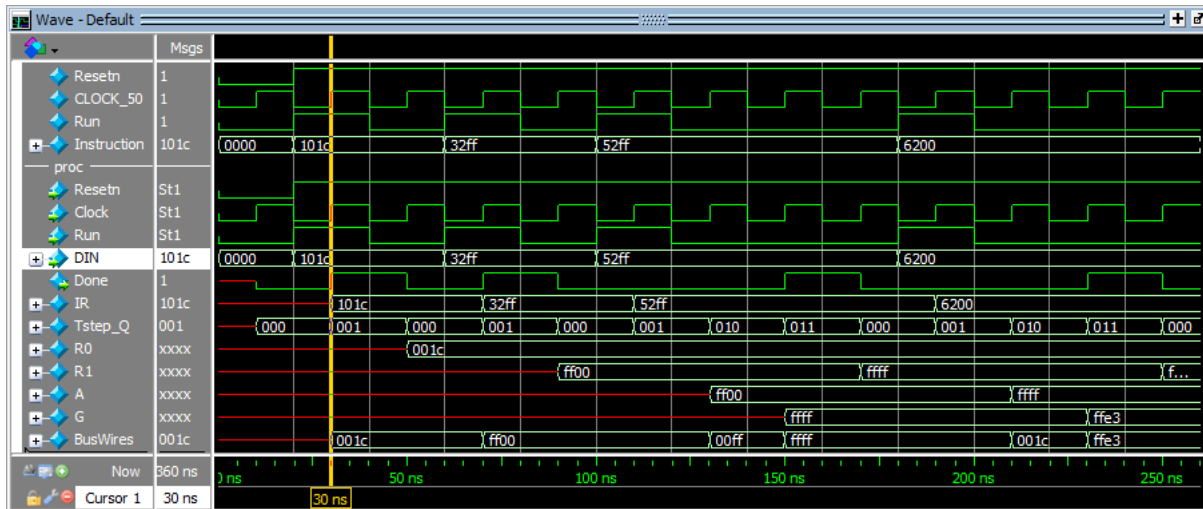

Figure 3: Simulation results for the processor.
- Set up the required subfolder and files so that your Verilog code can be compiled and simulated using the ModelSim Simulator to verify that your processor works properly. An example result produced by using *ModelSim* for a correctly-designed circuit is given in Figure 3. It shows the value `0x101C` being loaded into *IR* from *DIN* at time 30 ns. This pattern represents the instruction `mv r0, #28`, where the immediate value $D = 28$ (`0x1C`) is loaded into *r0* on the clock edge at 50 ns. The simulation results then show the instruction `mvt r1, #0xFF00` at 70 ns, `add r0, #0xFF` at 110 ns, and `sub r1, r0` at 190 ns.